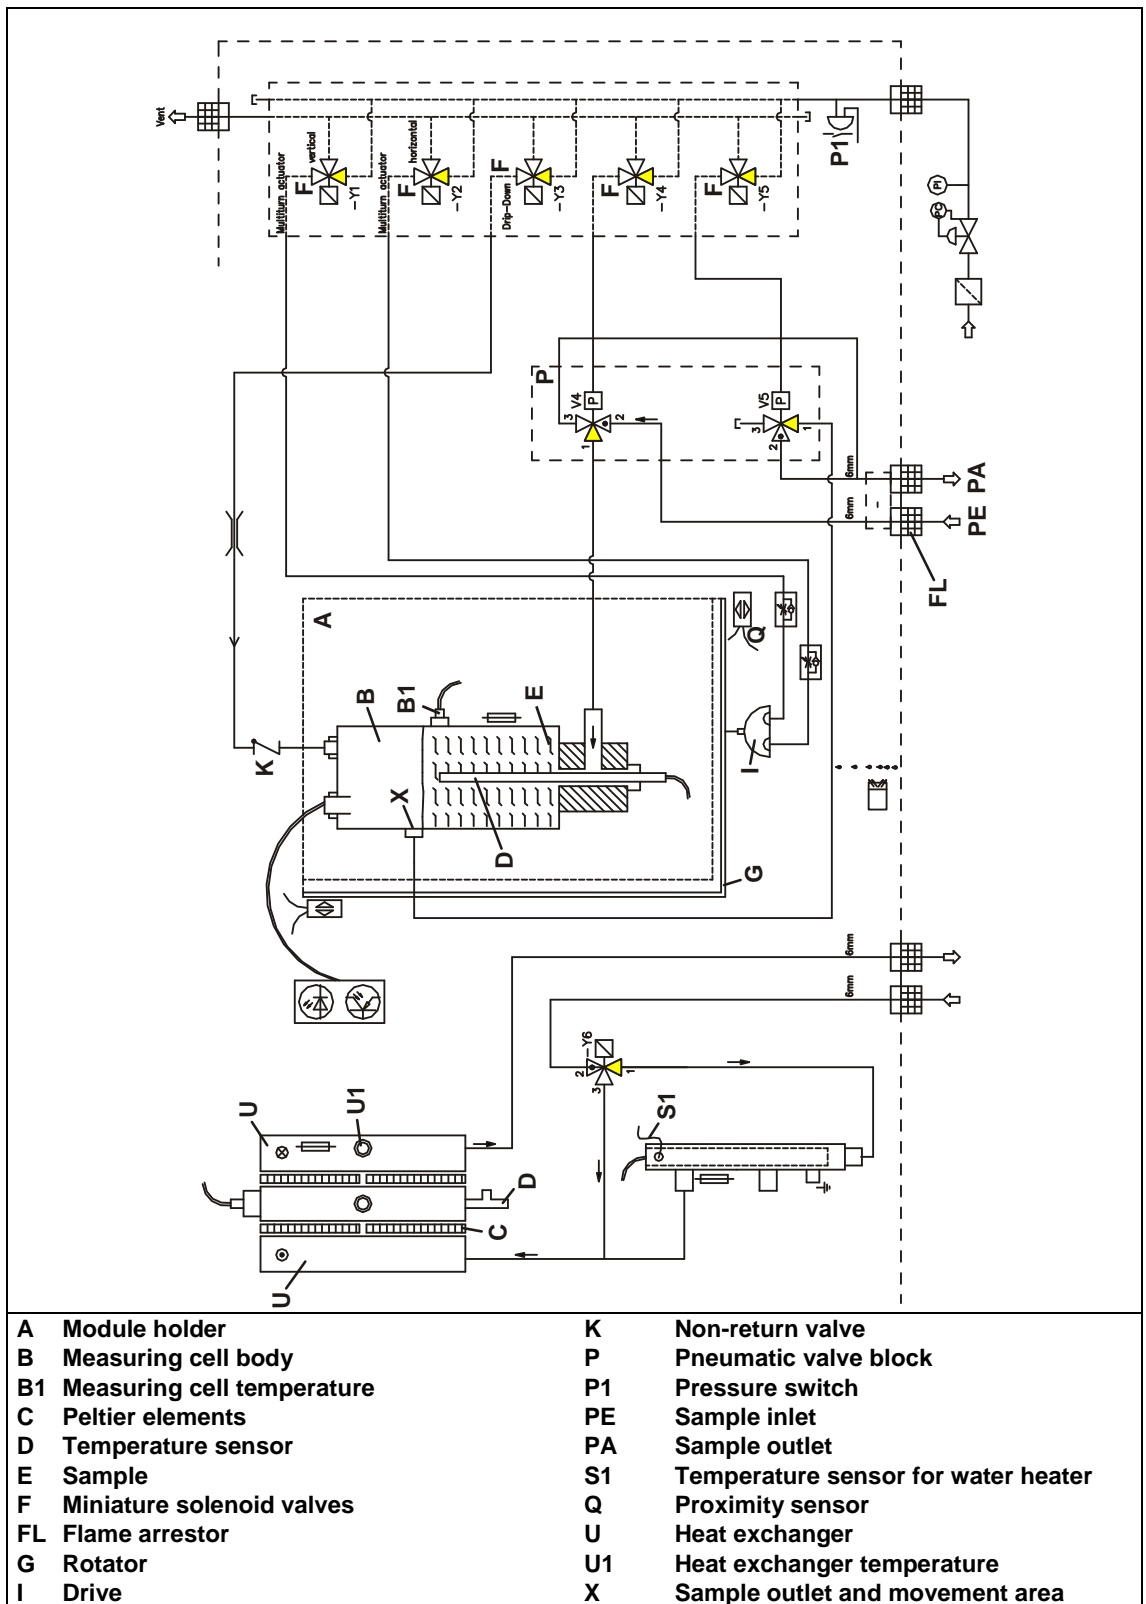

Fig. 3.1: Functional diagram PPA – Standard
The heating elements (position V in Fig. 3.1) have a maximum power of 38W. The complete Pour-point determination requires both warm and cold water for heat supply and removal to the Peltier elements (C). The warm water is provided by a 2-point controller with a 3/2-way solenoid valve Y.6 (R) and a heat exchanger (S) with an integrated heater (T).